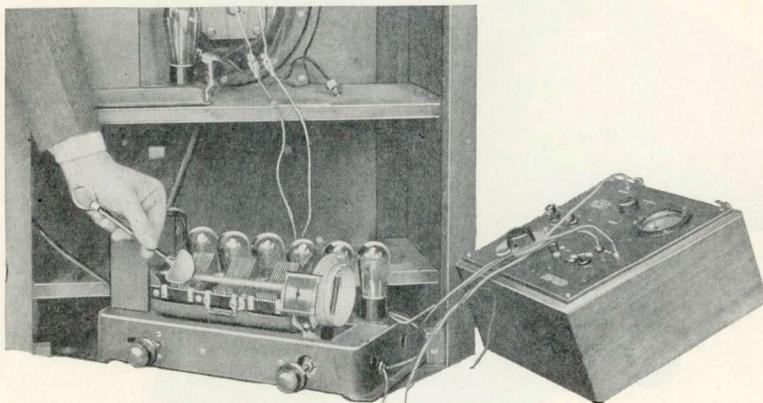

Figure 16—Aligning gang tuning condensers
- (b) Tune in a weak station or loud local with minimum volume control setting at the upper wavelengths. Then with the condenser end of the tester, touch the rotor plates, see Figure 16, and note if an increase or decrease of signal is obtained in the loudspeaker. Should touching the rotor plates and bring the plate closer to the stator plates increase the signal, then either that particular condenser is low in capacity or the coil it tunes is low in inductance. Should the signal decrease in volume, then the condenser and coil is either normal or high in value.
Should it not be possible to align the circuits by bending the plates or the gang condenser adjuster (See Figure 16), then the R.F. and oscillator coil assembly is not properly matched. In this case this assembly must be replaced as described in Part IV, Section 2.